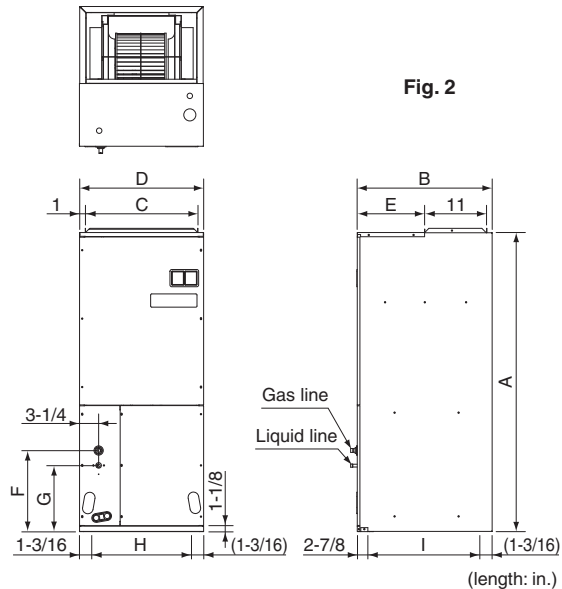

Fig. 2
- (1) When installing the product, refer to "3. SELECTING INSTALLATION SITE" and consider the product size as shown Fig. 2 and Table 1.